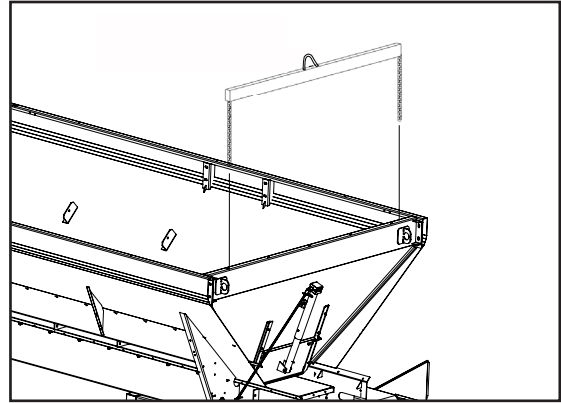

Figure 2
1. Figure 2 - Support endgate by attaching a hoist to the lift hooks. Remove hardware from both sides of the endgate and carefully remove from the spreader.